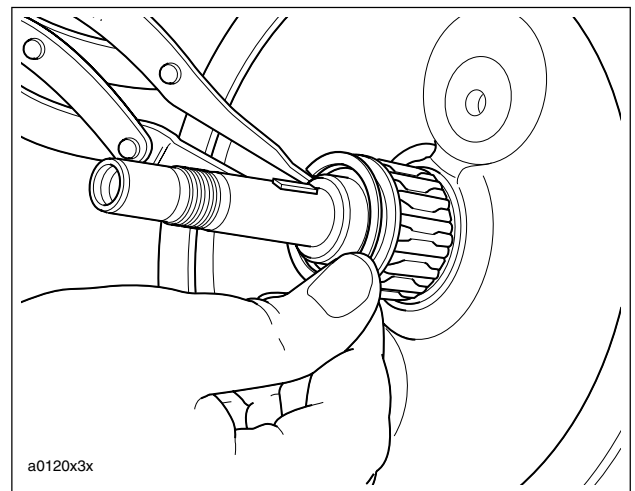

Figure 3-153. Pinion Shaft Bearing
6. See Figure 3-153. Install pinion shaft bearing.